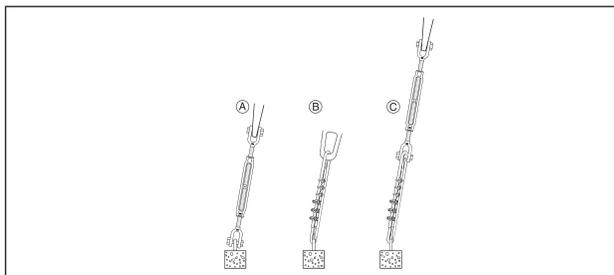
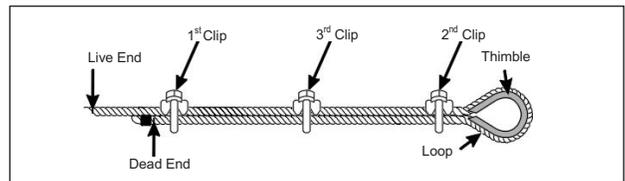
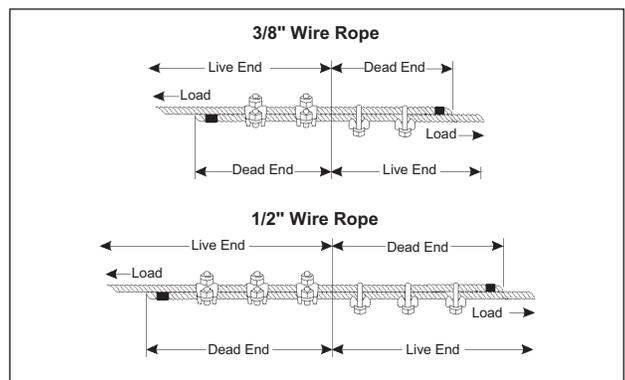

FIGURE 7-3
FIGURE 7-4
FIGURE 7-5
7.5.6. The installer is responsible for using appropriate and approved engineering practices when fastening wire rope. Refer to recommendations of wire-rope manufacturer and supplier, and follow accepted industry standards when selecting, using, attaching or connecting wire rope. (See FIGURE 7-3, FIGURE 7-4 and FIGURE 7-5.)
7.5.7. When connecting the end of a hold-down strap to the anchor, common methods (shown in FIGURE 7-3) are: A.) using a drop-forged turnbuckle, B.) using a looped wire rope, or C.) using a combination of both.
7.5.11. Apply the first clip at a distance from the dead end of the wire rope that is equal to the largest width of the clip used. (See FIGURE 7-4.)
7.5.12. For each clip, apply a U-bolt over the dead end of wire rope. (See FIGURE 7-4.) (Note: Live end rests in saddle.)
7.5.13. When two clips are required, apply the second clip as near the loop or thimble as possible. (See FIGURE 7-4.)
7.5.14. When more than two clips are required, apply the second clip as near the loop or thimble as possible; turn nuts on second clip firmly, but do not tighten initially. (See FIGURE 7-4.)
7.5.17. If forming a loop in the wire rope, a splice is required for connecting the two ends together. Standard rigging practice for splicing wire rope calls for using twice the number of clips recommended for a single-end termination. Use a minimum of four clips for a 3/8-inch wire rope and a minimum of six clips for a 1/2-inch wire rope. Place the rope ends parallel to each other and install the clips as shown in FIGURE 7-5.